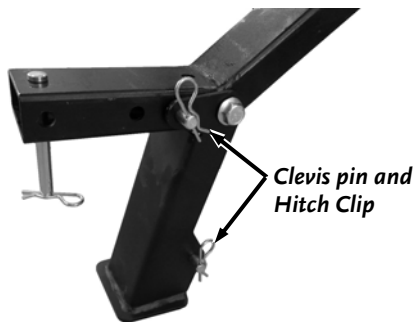

Figure 5
2. Insert the Clevis Pins at the locations shown and secure with Hitch Clips (Figure 5).